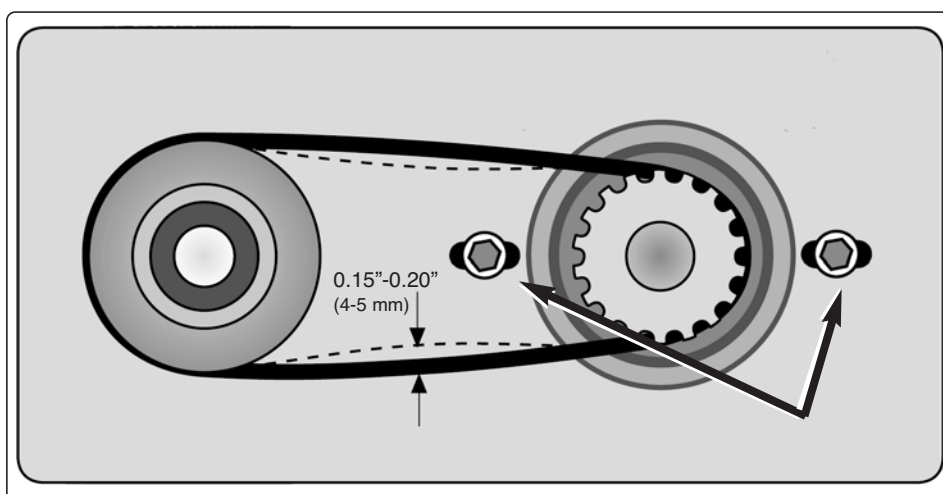

Fig.41. The drive belt tension can be adjusted after the two bolts have been loosened.
4. Check the belt tension. The belt is correctly tensioned when it can be pressed in 0.15"-0.20", see fig. 41.